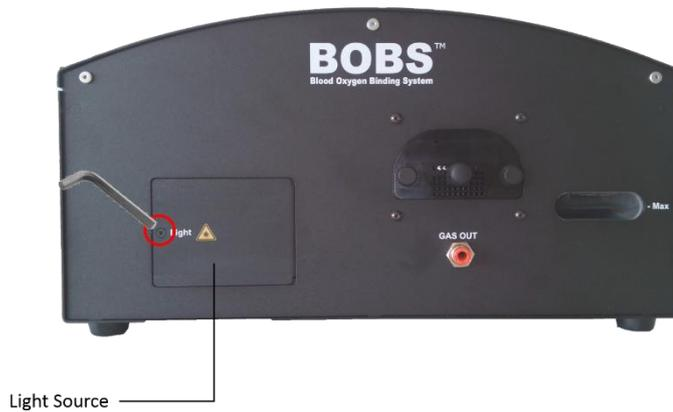

Figure 46: Light bulb replacement.
2. Loosen the screw of the light source lid using the provided Hexagonal socket screw key M3 (Figure 46).